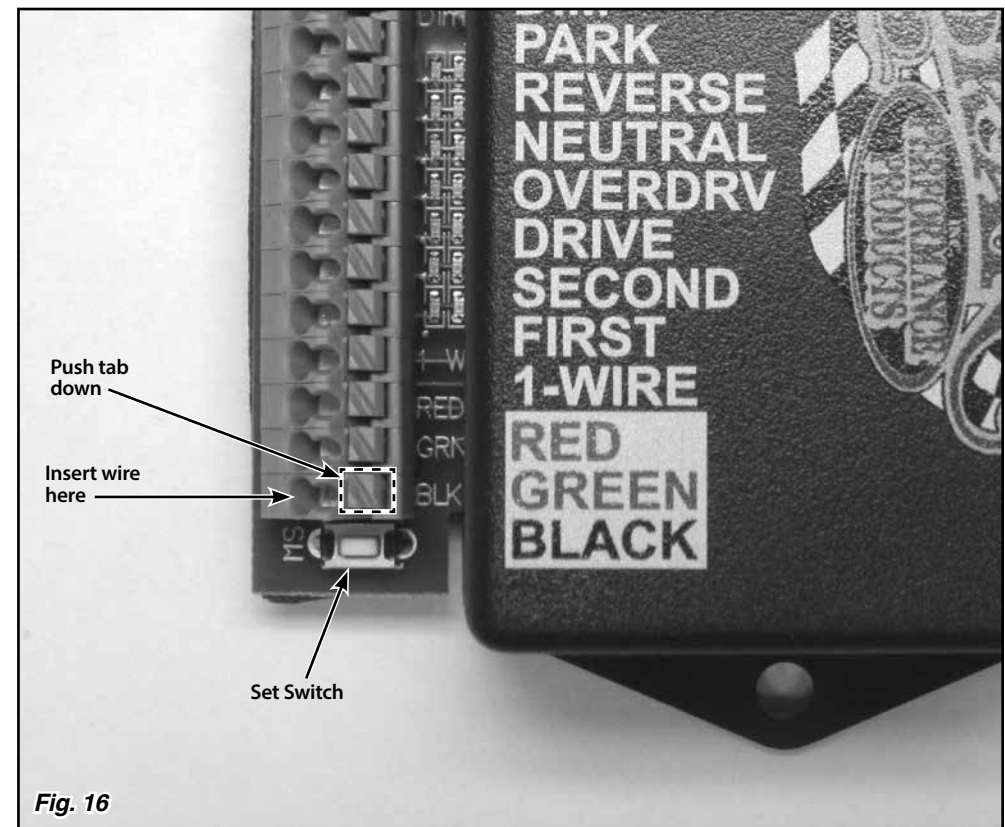

Fig. 16
The sensor has a 10 foot long gray cable attached to it. This cable contains 3 wires which connect to the decoder box. To connect the wires to the decoder box, use a small flat blade screwdriver to loosen the screw terminal. Strip 3/8" of the insulation off of the wire, and insert the wire into the terminal on the decoder box. Then, tighten the screw terminal. **Fig. 16** Connect the red wire to the terminal marked RED. Connect the green wire to the terminal marked GREEN. Connect the black wire to the terminal marked BLACK.
Step 2: Press and hold the set switch. **Fig. 16** Turn the ignition key on while holding the set switch down. Then, release the set switch.